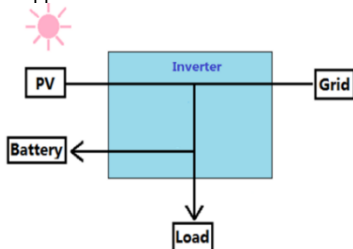

Figure1-7
1. PV and grid supply power to load and charge batteries together. (Figure1-7)